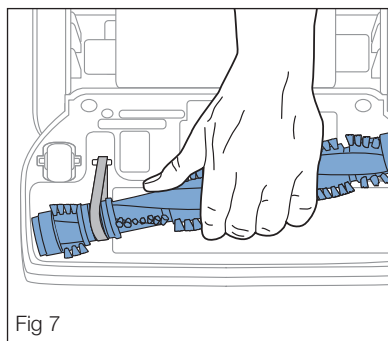

Fig 7
- Thread brush roll into belt so belt fits into grooves; align so end cap fits into square opening (Fig. 7).